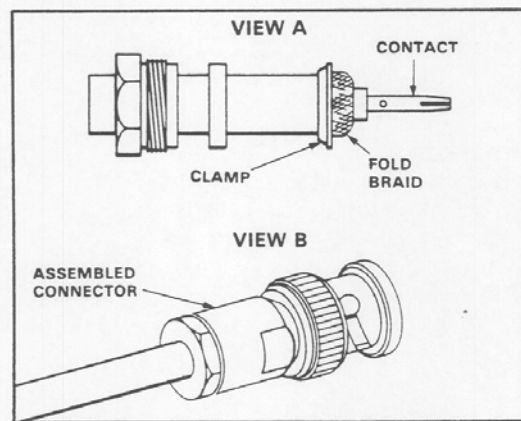

Fig. 3
4. Fold braid over clamp and against clamp collar. See Figure 3, View A.
6. Seat gasket in body, then thread nut into body until nut is secured. See Figure 3, View B.